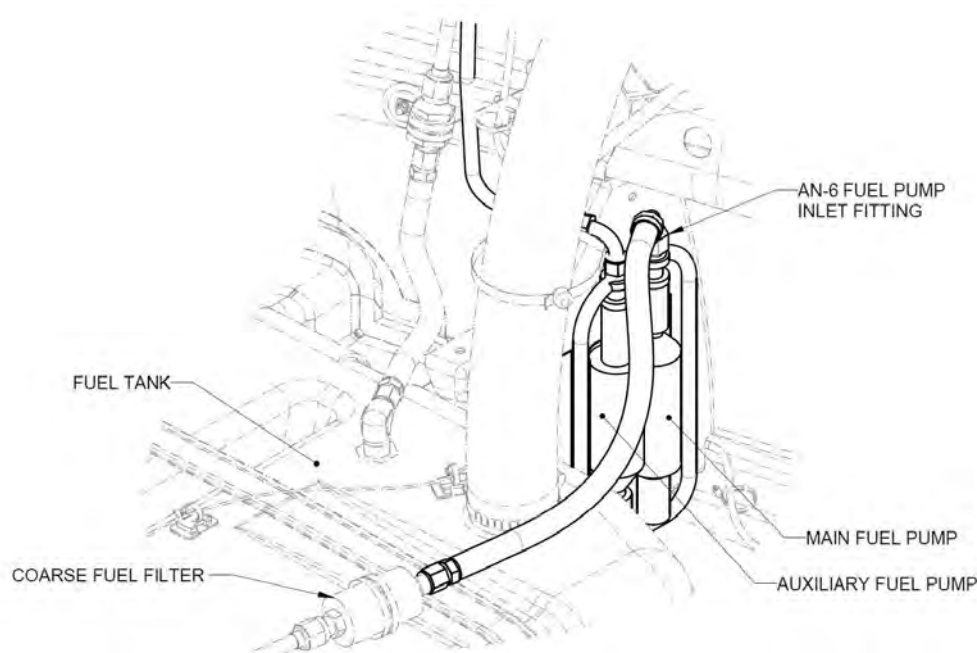

FIGURE 11-19
2. Apply the THREADLOCKER to Fuel Pump studs and install 4x WASHER and 4x M6 nuts previously removed. (See Figure 11-19.) Torque to 30-35 in-lbs.
4. Connect the AN-6 Fuel Pump Inlet Fitting onto the Fuel Pump Inlet. (See Figure 11-19.) Torque fitting to 110-130 in-lbs.